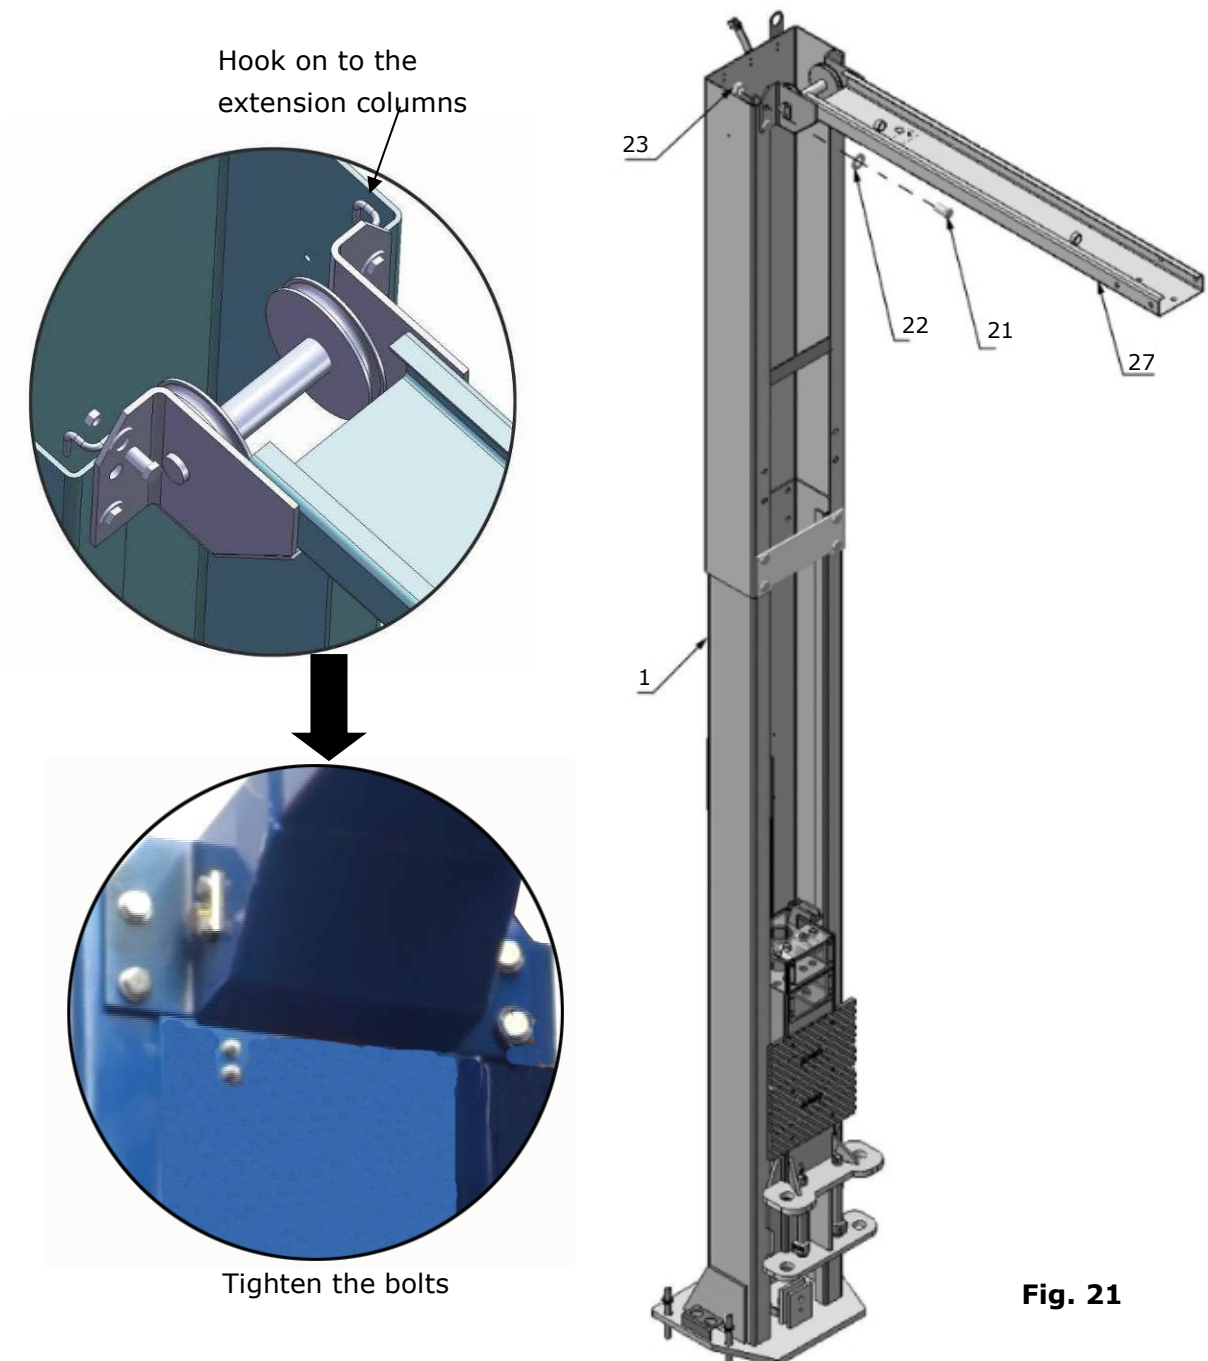

Fig. 21
1. With help of the hook of top beam, put one side of top beam on top of the extension column and connecting the top beam to extension column by bolts, tighten the bolts. Then assemble the connecting bracket (**See Fig. 21**).